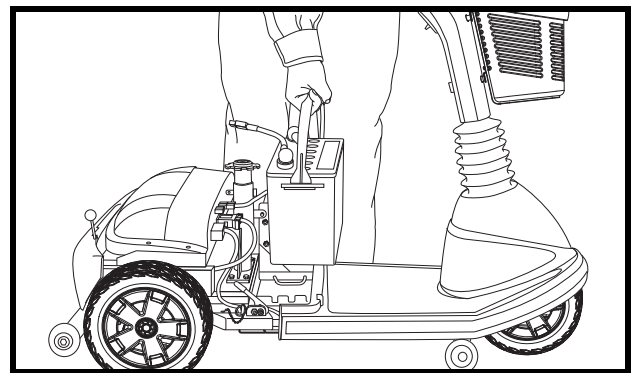

Figure 21. Battery Removal
7. Lift both batteries off the scooter. See figure 21.